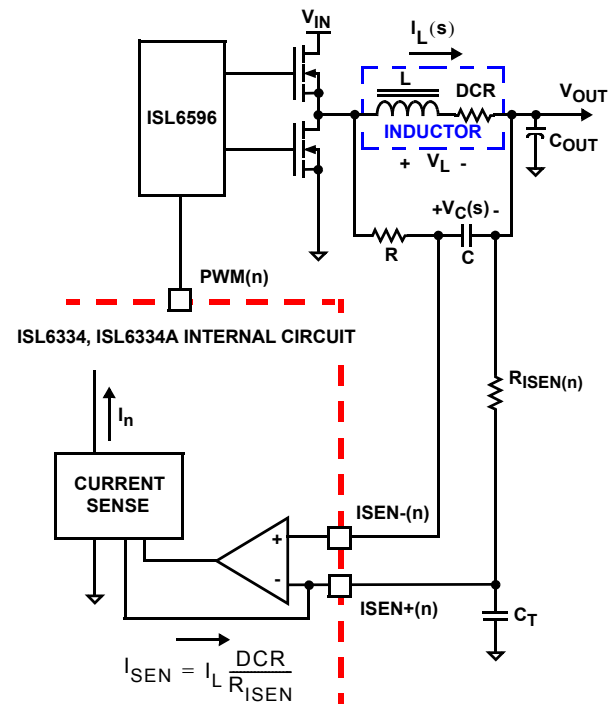

FIGURE 8. DCR SENSING CONFIGURATION
The internal circuitry, shown in Figures 8 and 9, represents one channel of an N-channel converter. This circuitry is repeated for
An inductor’s winding is characteristic of a distributed resistance, as measured by the DCR (Direct Current Resistance) parameter. Consider the inductor DCR as a separate lumped quantity, as shown in Figure 8. The channel current I_L , flowing through the inductor, will also pass through the DCR. Equation 4 shows the s-domain equivalent voltage across the inductor V_L .
A simple R-C network across the inductor extracts the DCR voltage, as shown in Figure 8.
The current sense circuitry operates in a very similar manner for negative current feedback, where inductor current is flowing from the output of the regulator to the PHASE node, opposite of flow pictured in Figures 8 and 9. However, the range of proper operation with negative current sensing has a limitation. The worst-case peak-to-peak inductor ripple current should be kept less than 70% of the OCP trip point (internal mirrored current = $\sim 70\mu\text{A}$). Care should be taken to avoid operation with negative current feedback exceeding this threshold, as this may lead to momentary loss of current balance between phases and disruption of normal circuit operation. Note that the negative current can especially affect coupled inductor designs, where the effective inductance is the leakage between the two channels, much lower than the specified mutual inductance (LM). To limit the impact, a higher R_{ISEN} value (1.5x to 2x) can be used to reduce the effective negative current seen by the controller in coupled inductor designs. Refer to Intersil's application note, AN1268 for a detailed coupled inductor discussion and ripple current calculation.